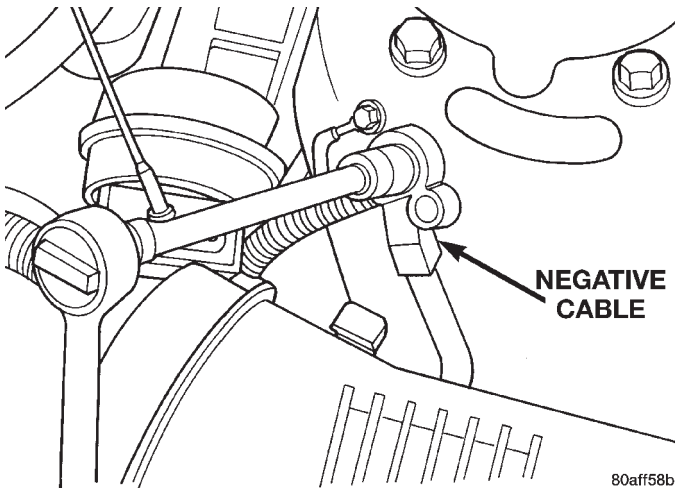

Fig. 48 Negative Cable
(1) Disconnect battery negative cable at left strut tower (Fig. 48).